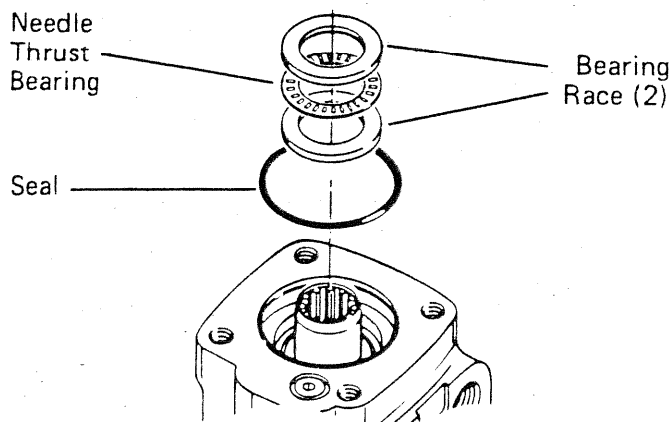

Figure 17
- 12 Place housing on clean, lint free cloth. Install 2-1/8" diameter seal in housing, see Fig. 17.
- 13 Install 2 bearing races and the needle thrust bearing in the order shown in Fig. 17.